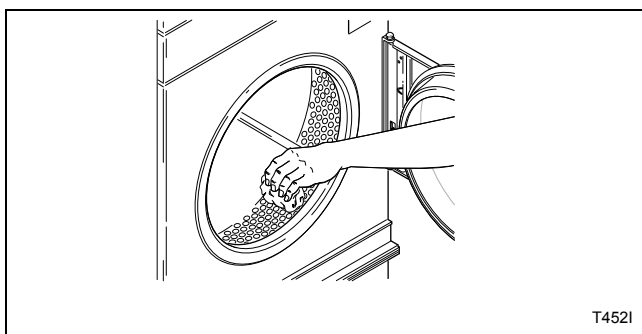

Figure 6
10. Wipe out the cylinder using an all-purpose cleaner or detergent and water solution. Refer to *Figure 6*.